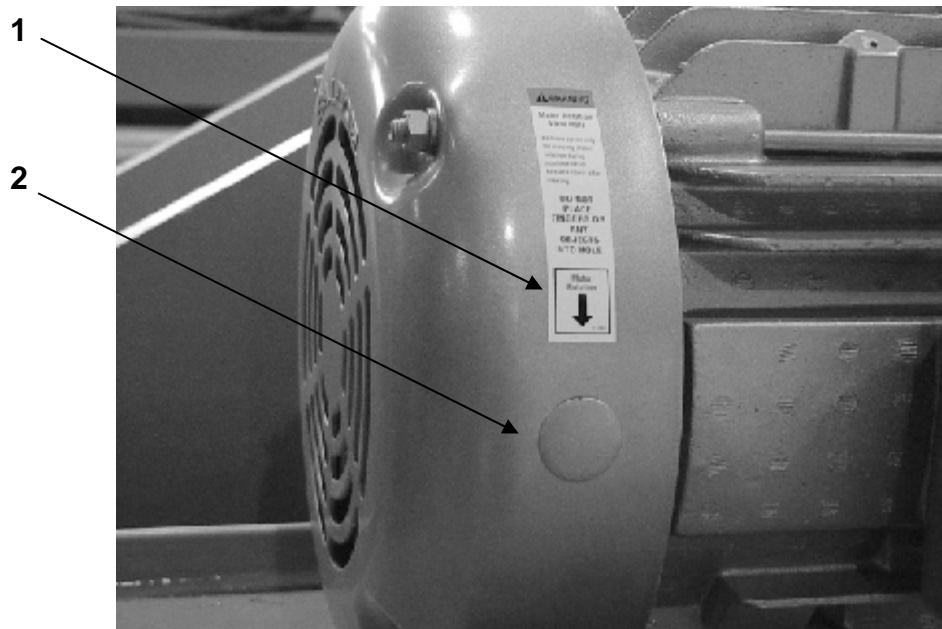

Figure 6: Motor Rotation Viewport
Electrical connection of the 3-phase systems requires proper phasing. When connecting the press to a 3-phase power source, the rotational direction of the pump drive motor must be correct. . The motor must rotate in the direction of the arrow on the electrical motor (See Figure 6). A licensed electrician should perform all electrical connections.
1. Locate the pump case drain port (*See Figure 6 Item 2*).